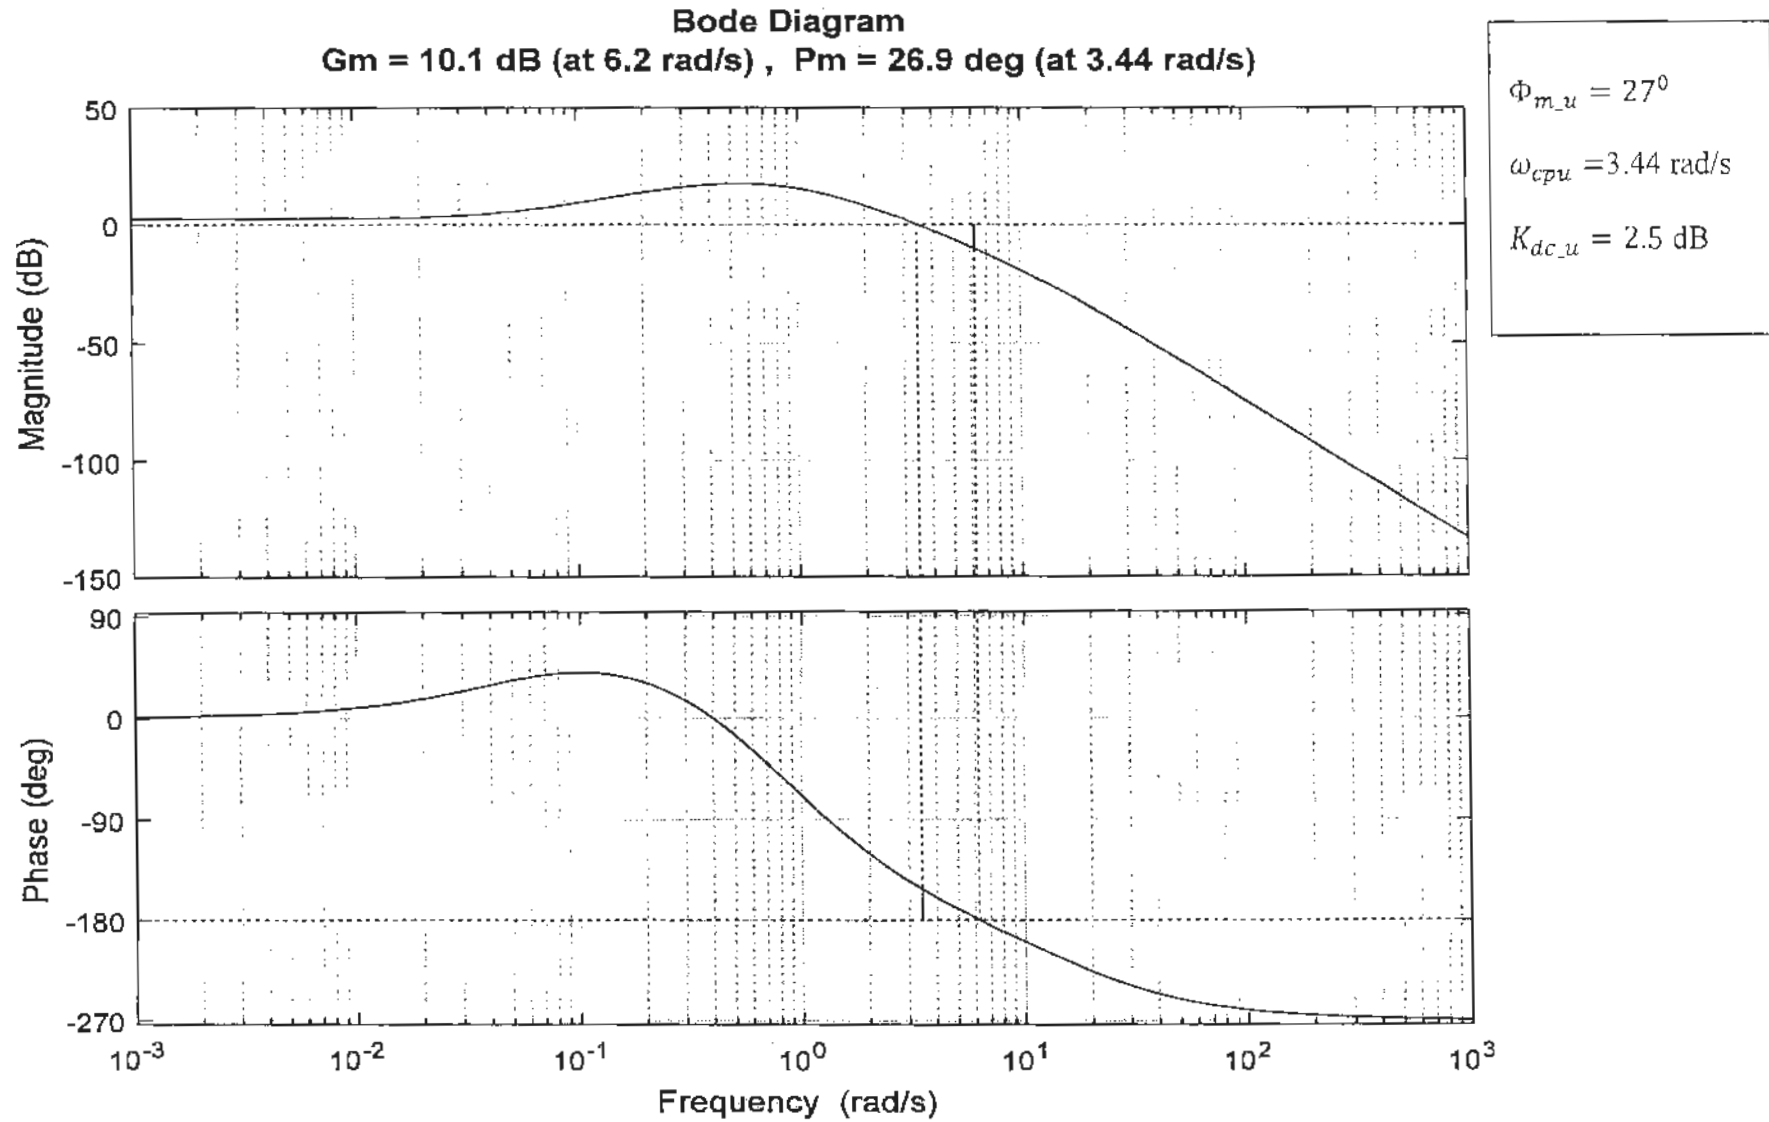

Figure Q7.1 – Open Loop Uncompensated System Frequency Response in Question 7
Consider uncompensated open loop frequency response plots shown in Figure Q7.1. The closed loop system is to be compensated by a Lead Controller  $G_c(s)$ :
1. **(6 marks)** Use the information provided in Figure Q7.1 to determine the Position Constant of the uncompensated system,  $(K_{pos_u})$  and to estimate the uncompensated system step error, in %,  $e_{ss(step)\%_u}$ . Next, calculate the Position Constant of the compensated system  $(K_{pos_c})$  that would meet the design requirement and calculate the required value of the Controller DC gain parameter,  $a_0$ .
3. **(10 marks)** Calculate the remaining Lead Controller parameters  $(a_1, b_1)$  and the Controller transfer function  $G_c(s)$ . Show the general shape of the compensated frequency response by overlaying it on top of the uncompensated plot in Figure Q7.1.